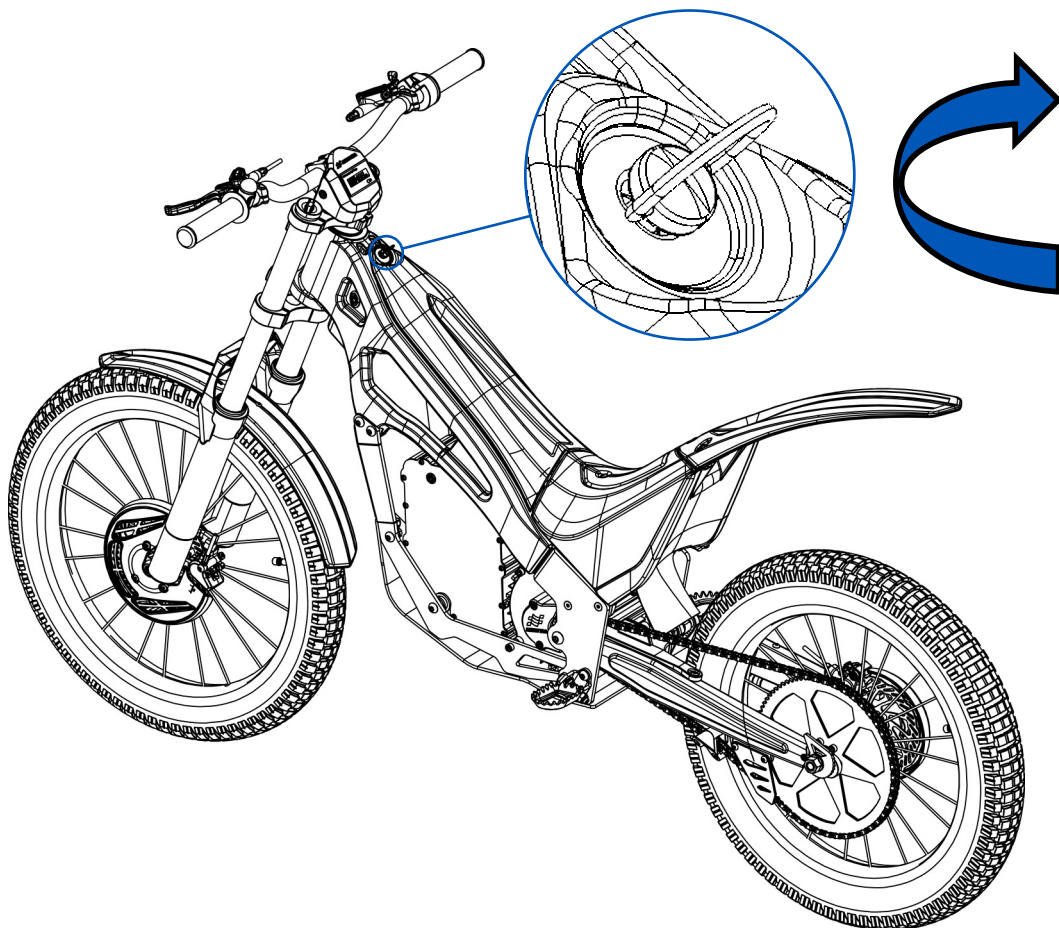

Fig. 33
- 7- Finally, turn the quick-release screw (Figure 33) half a turn to the right and make sure that the upper casing is properly fixed to the frame.